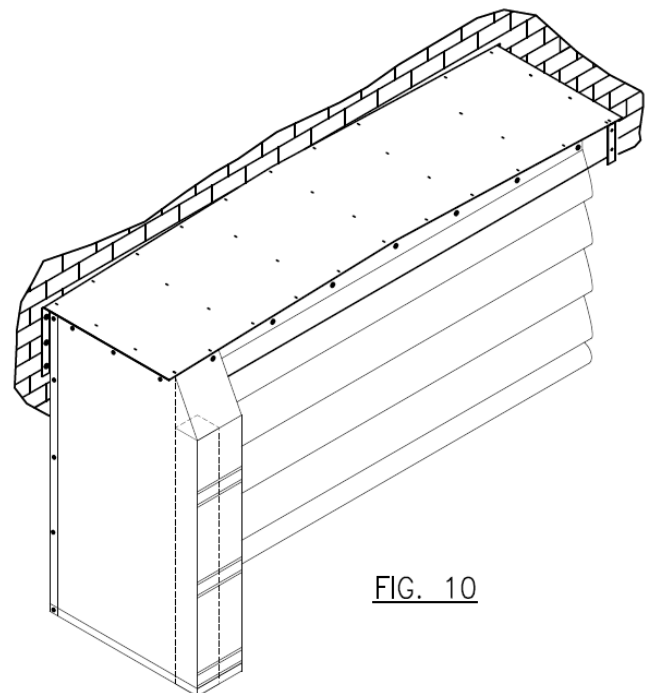

FIG. 10
b. Attach side curtains (Fig. 10).